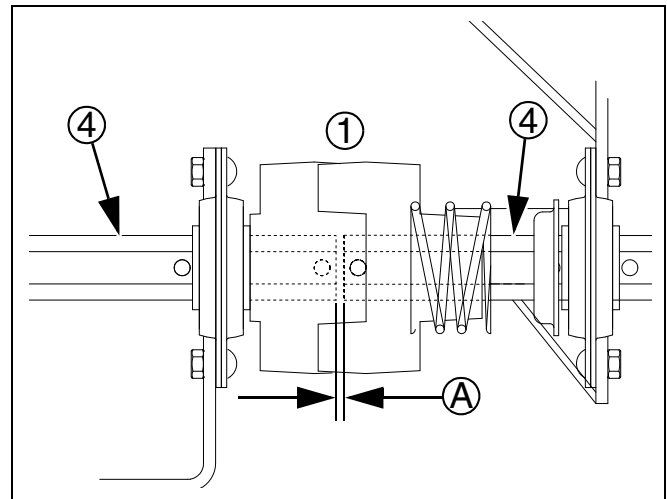
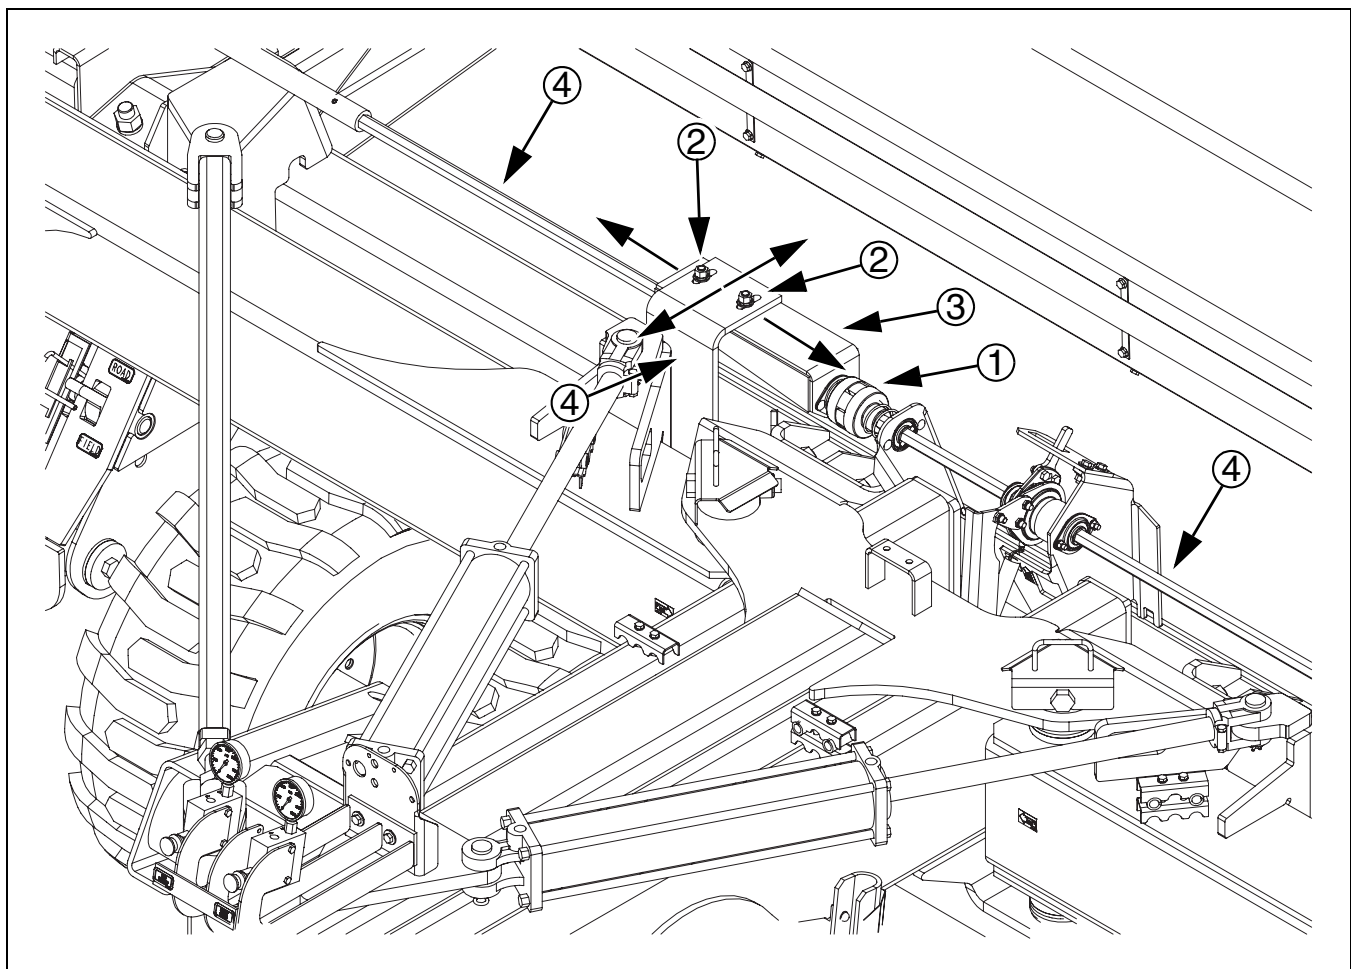

Figure 42
Figure 43
**Refer to Figure 42 and Figure 43**
3. To align the clutch jaws ① from front to rear, loosen the two  $\frac{1}{2}$  inch carriage bolts ② and slide breakaway clutch bracket ③ in the desired direction.
4. To adjust clutch jaws for full jaw contact, loosen the same two  $\frac{1}{2}$  inch carriage bolts ② and slide breakaway clutch make full contact with jaws on spring loaded half of clutch without compressing clutch spring.
-  The two  $\frac{7}{8}$  inch hex shafts ④ must have  $\frac{1}{8}$  inch (3.2 mm) gap **A** between them when the clutch jaws have full contact.